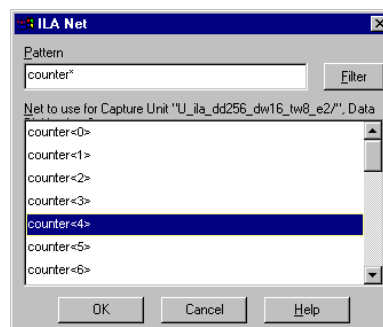

Figure 12: ILA Net Dialog Box
7. Click **Change Net** to display the *ILA Net* dialog box (Figure 12).